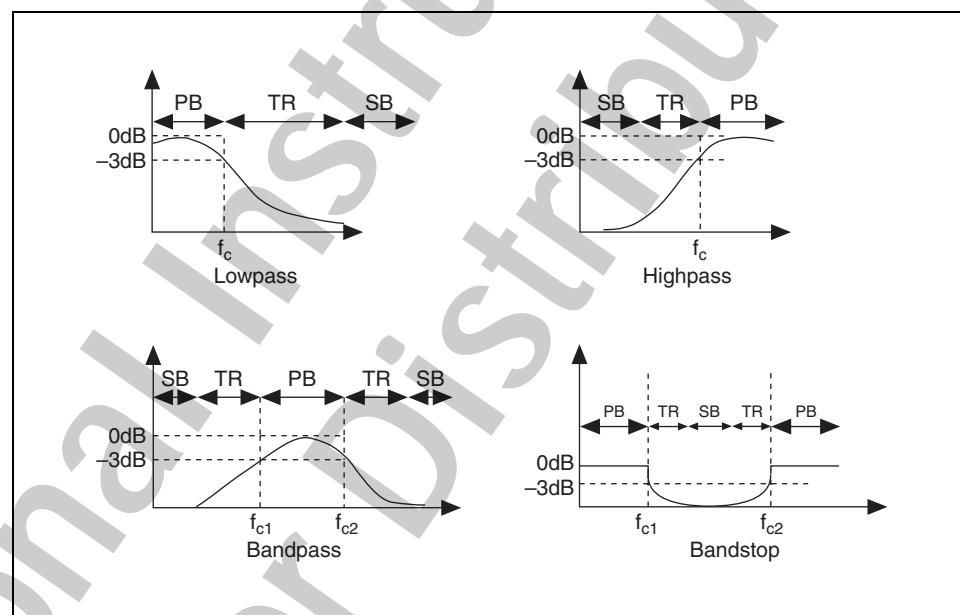

Figure B-26. Transition Bands
Ideally, a filter should have a unit gain (0 dB) in the passband and a gain of zero ($-\infty$ dB) in the stopband. However, in a real implementation, not all of these criteria can be fulfilled. In practice, a finite transition region always occurs between the passband and the stopband. In this region, the gain of the filter changes gradually from one (0 dB) in the passband to zero ($-\infty$ dB) in the stopband. Figure B-26 shows the passband, the stopband, and the transition region (TR) for the different types of nonideal filters. The passband becomes the frequency range within which the gain of the filter varies from 0 dB to -3 dB. Although the -3 dB range is most common, depending on the application, other values (-0.5 dB, -1 dB, and so on) also might be used.